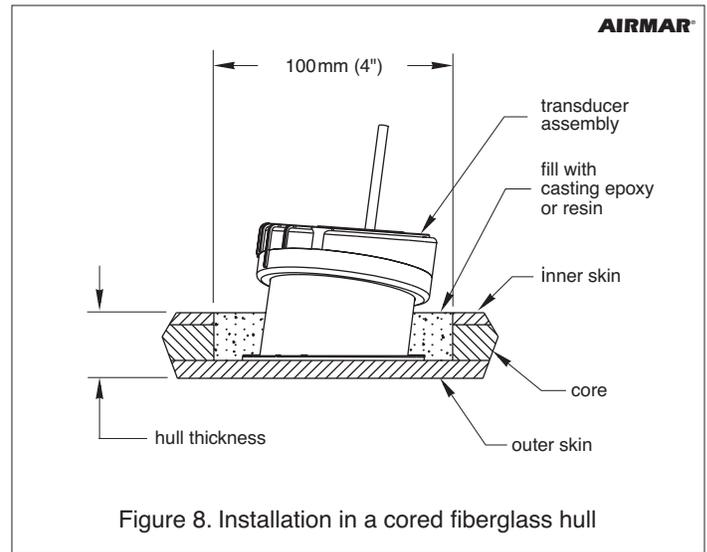

Figure 8. Installation in a cored fiberglass hull
1. Using a 100mm or 4" hole saw, cut through the **inner skin** and the core at the selected location (see Figure 8). The core material can be very soft. Apply only light pressure to the hole saw after cutting through the inner skin to avoid accidentally cutting the outer hull.